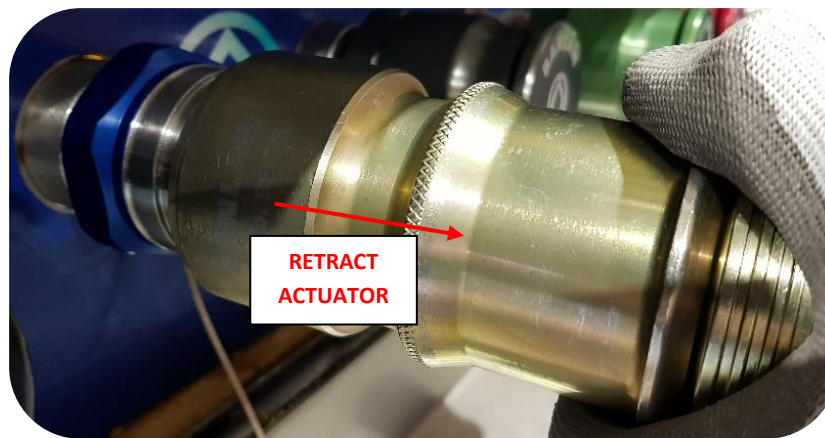

Figure 8 - Connecting the Coupling and Receiver
- Manually retract the Actuator of the Evacuation Coupling, align the front recess of the Evacuation Coupling with the Receiver, and in one steady motion, push the Evacuation Coupling onto the Receiver – refer Figure 8.